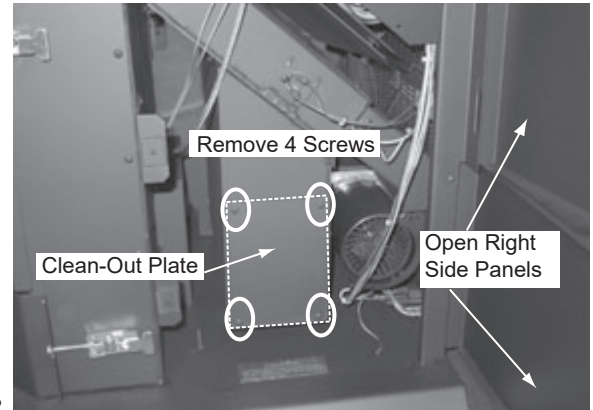

Figure 21.2
- a. Open both the upper and lower right side panels. **Figure 21.2.**
- b. Using a Phillips head screwdriver remove the 4 screws from the clean-out plate and set aside. **Figure 21.2.**